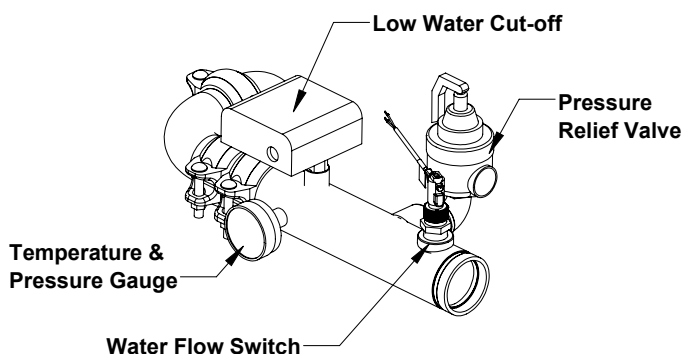

Figure 12: Factory Supplied Water Manifold
1. A pressure relief valve is included with every Citadel boiler. If the Relief valve is shipped loose, install it to the outlet manifold as shown in Figure 12.